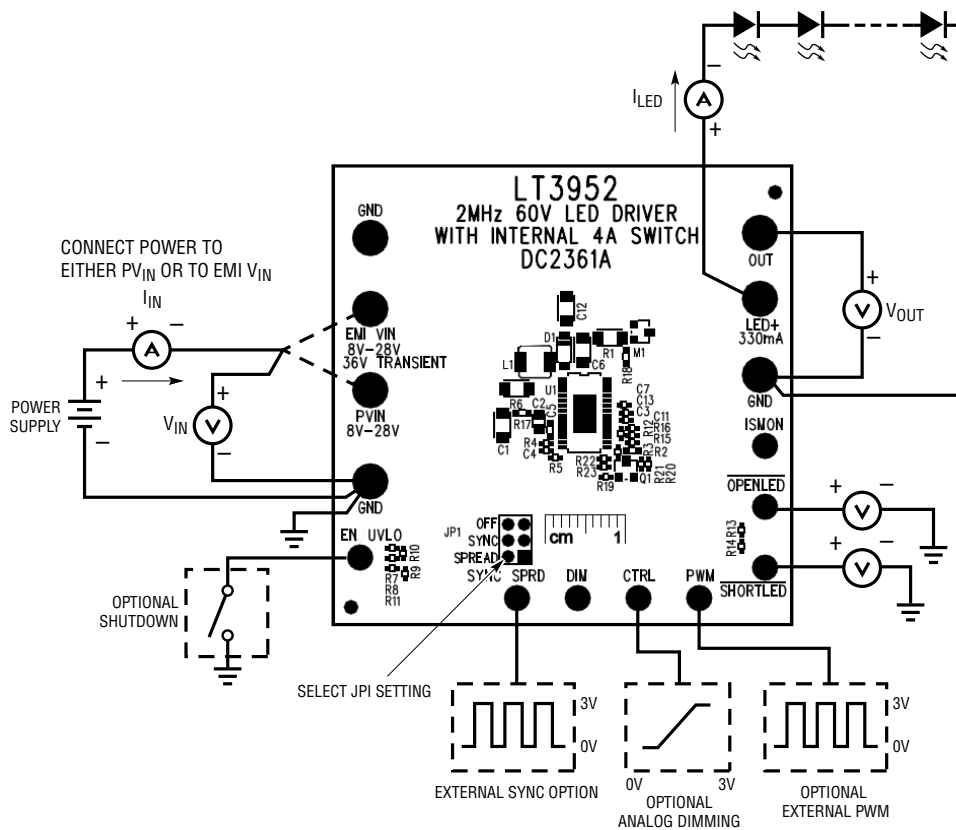

Figure 1. Test Procedure Setup Drawing for DC2361A
1. Connect a string of LEDs that will run with forward voltage less than or equal to 40V (at 330mA), but greater than PV_{IN} , to the LED⁺ and GND terminals on the PCB as shown in Figure 1.